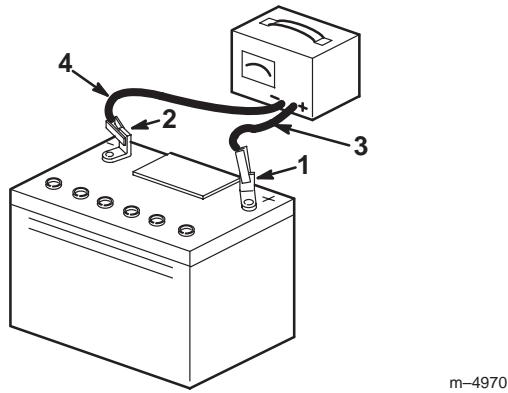

Figure 21
4. When the battery is fully charged, unplug the charger from the electrical outlet, then disconnect the charger leads from the battery posts (Fig. 21).